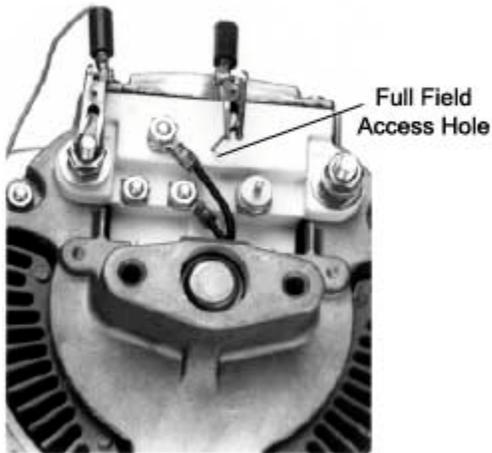

Figure 4
5.4 Insert the drill bit in the full field access hole as far as it will go and make a note of the voltage reading (Figure 4).